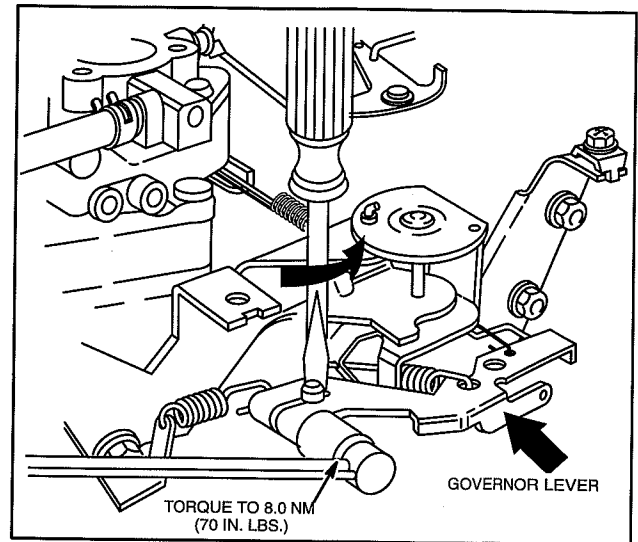

Fig. 16 – Static Governor Adjustment
2. Rotate governor shaft counter-clockwise as far it will go, Fig. 16.